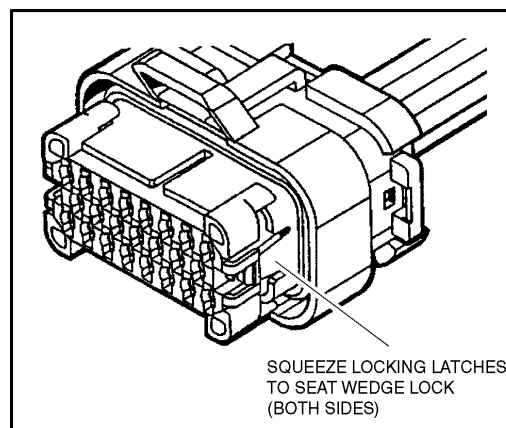

Figure 6-8. Connector Assembly (3 of 4)
3. After all required contacts have been inserted, the wedge lock must be closed to its locked position. Release the locking latches by squeezing them inward (See Figure 6-8. Connector Assembly (3 of 4)).